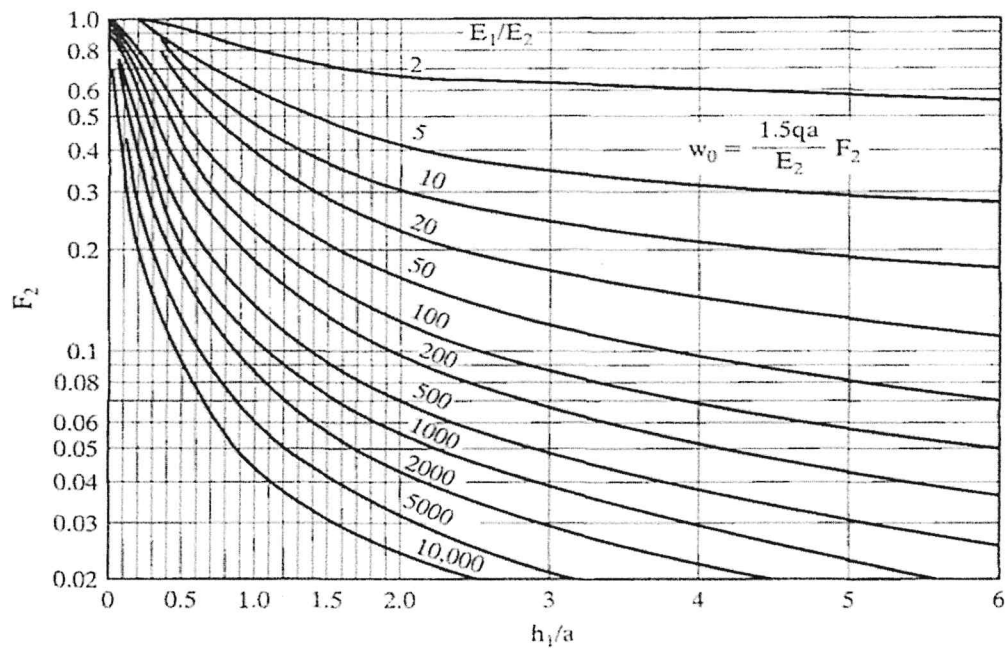

Figure 1: Burmister chart
2. (a) Given the following data calculate the surface deflection of a pavement under the centre of the tyre using Burmister's theory. The Burmister chart is presented in figure 1 **(6 marks)**